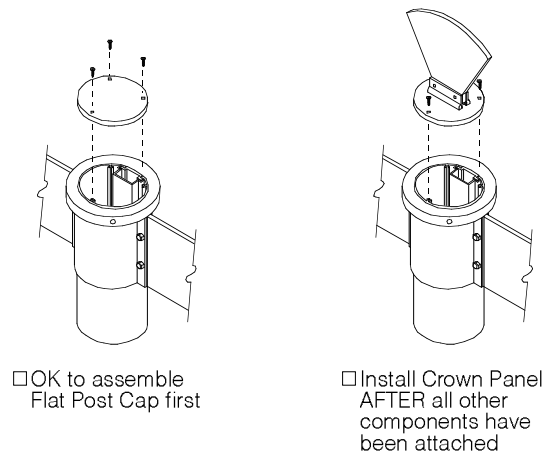

Fig. 2
1. Attach Post Cap to top end of Post using #1 square driver and #6 x 3/4" flat head screws provided. (Refer to Fig. 2)
If the sign assembly has been outfitted with a Crown Panel, it will be necessary to remove it first. Using a #1 Square driver, remove 3 Post Cap retaining screws and Crown Panel. (Refer to Fig. 2)